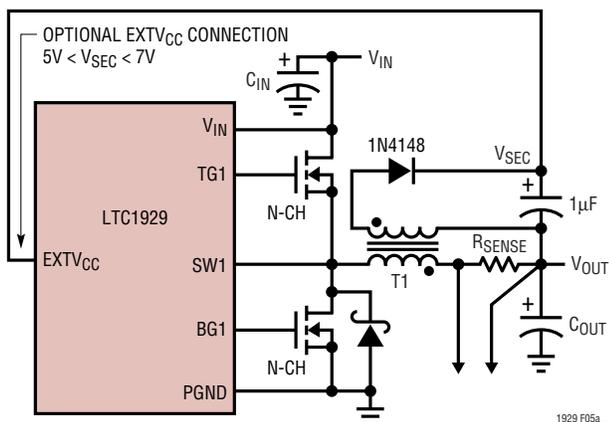
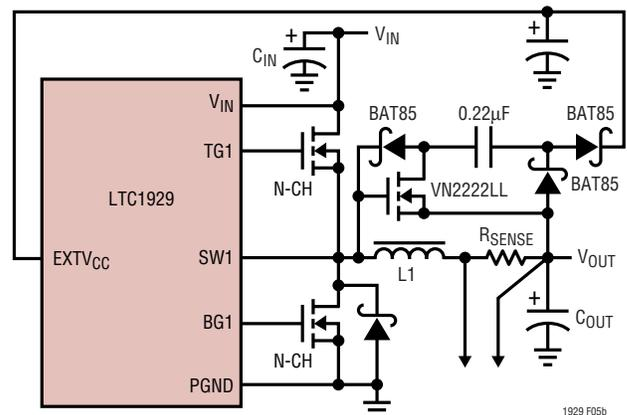

Figure 5a. Secondary Output Loop with EXTVCC Connection
Figure 5b. Capacitive Charge Pump for EXTVCC
4. EXTVCC connected to an output-derived boost network. For 3.3V and other low voltage regulators, efficiency gains can still be realized by connecting EXTVCC to an output-derived voltage which has been boosted to greater than 4.7V but less than 7V. This can be done with either the inductive boost winding as shown in Figure 5a or the capacitive charge pump shown in Figure 5b. The charge pump has the advantage of simple magnetics.